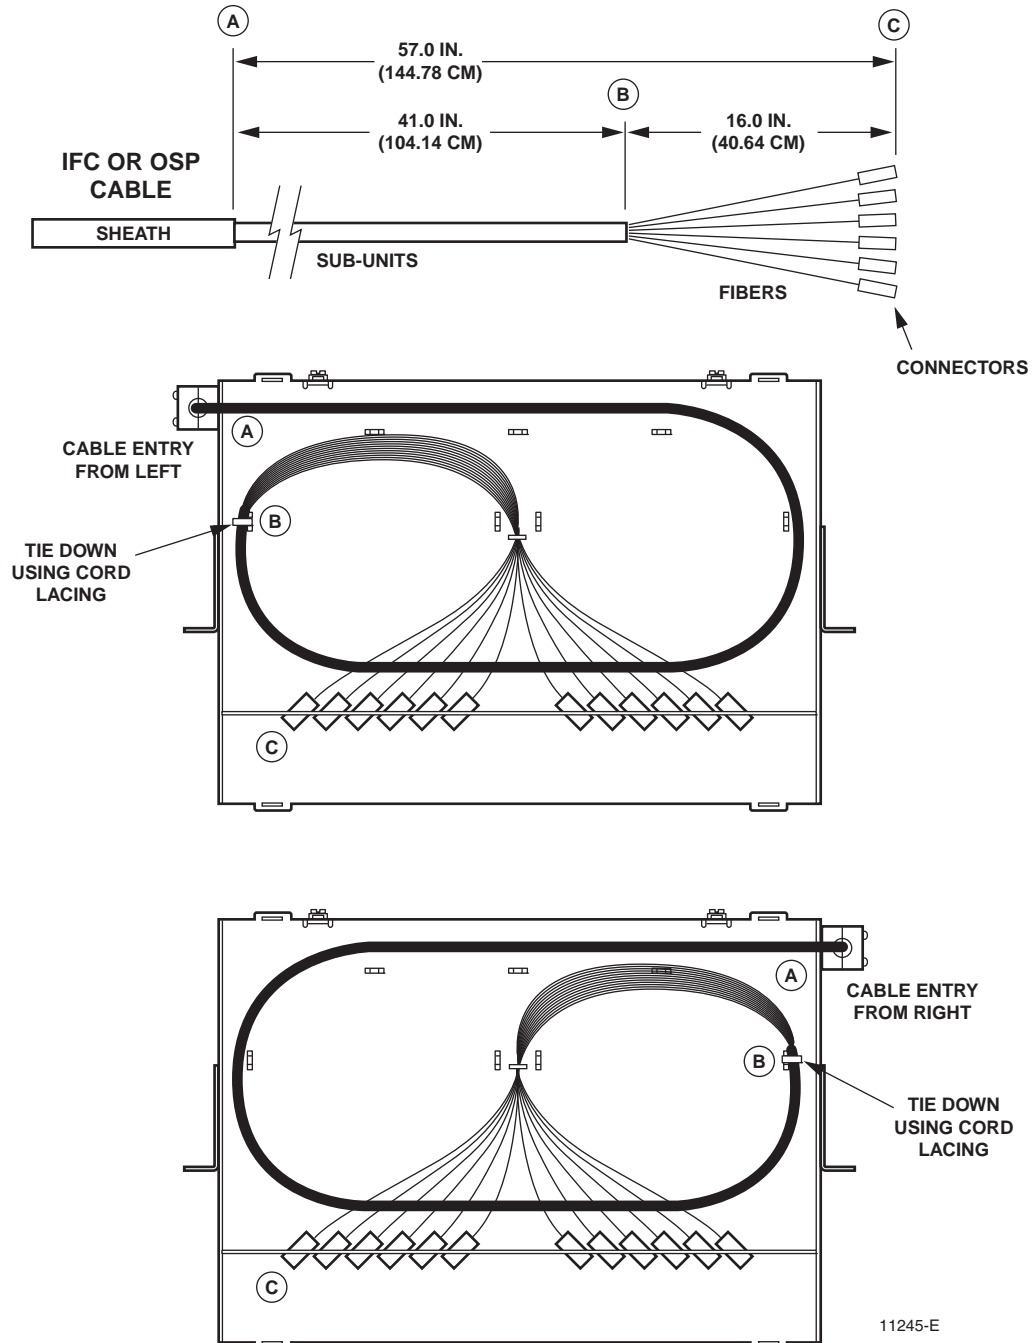

Figure 7. Cable Breakout for 24-Fiber Panel
Figure 7 shows cable routing options and breakout dimensions for the 24-fiber termination rack-mount panel. The cable can enter from above or below the chassis and from the left or right side.
1. Route the cable to the chassis and break out the cable corresponding to Figure 7.
5. Route the fibers within the chassis as shown in Figure 7 and tie down the fibers in the B position shown.